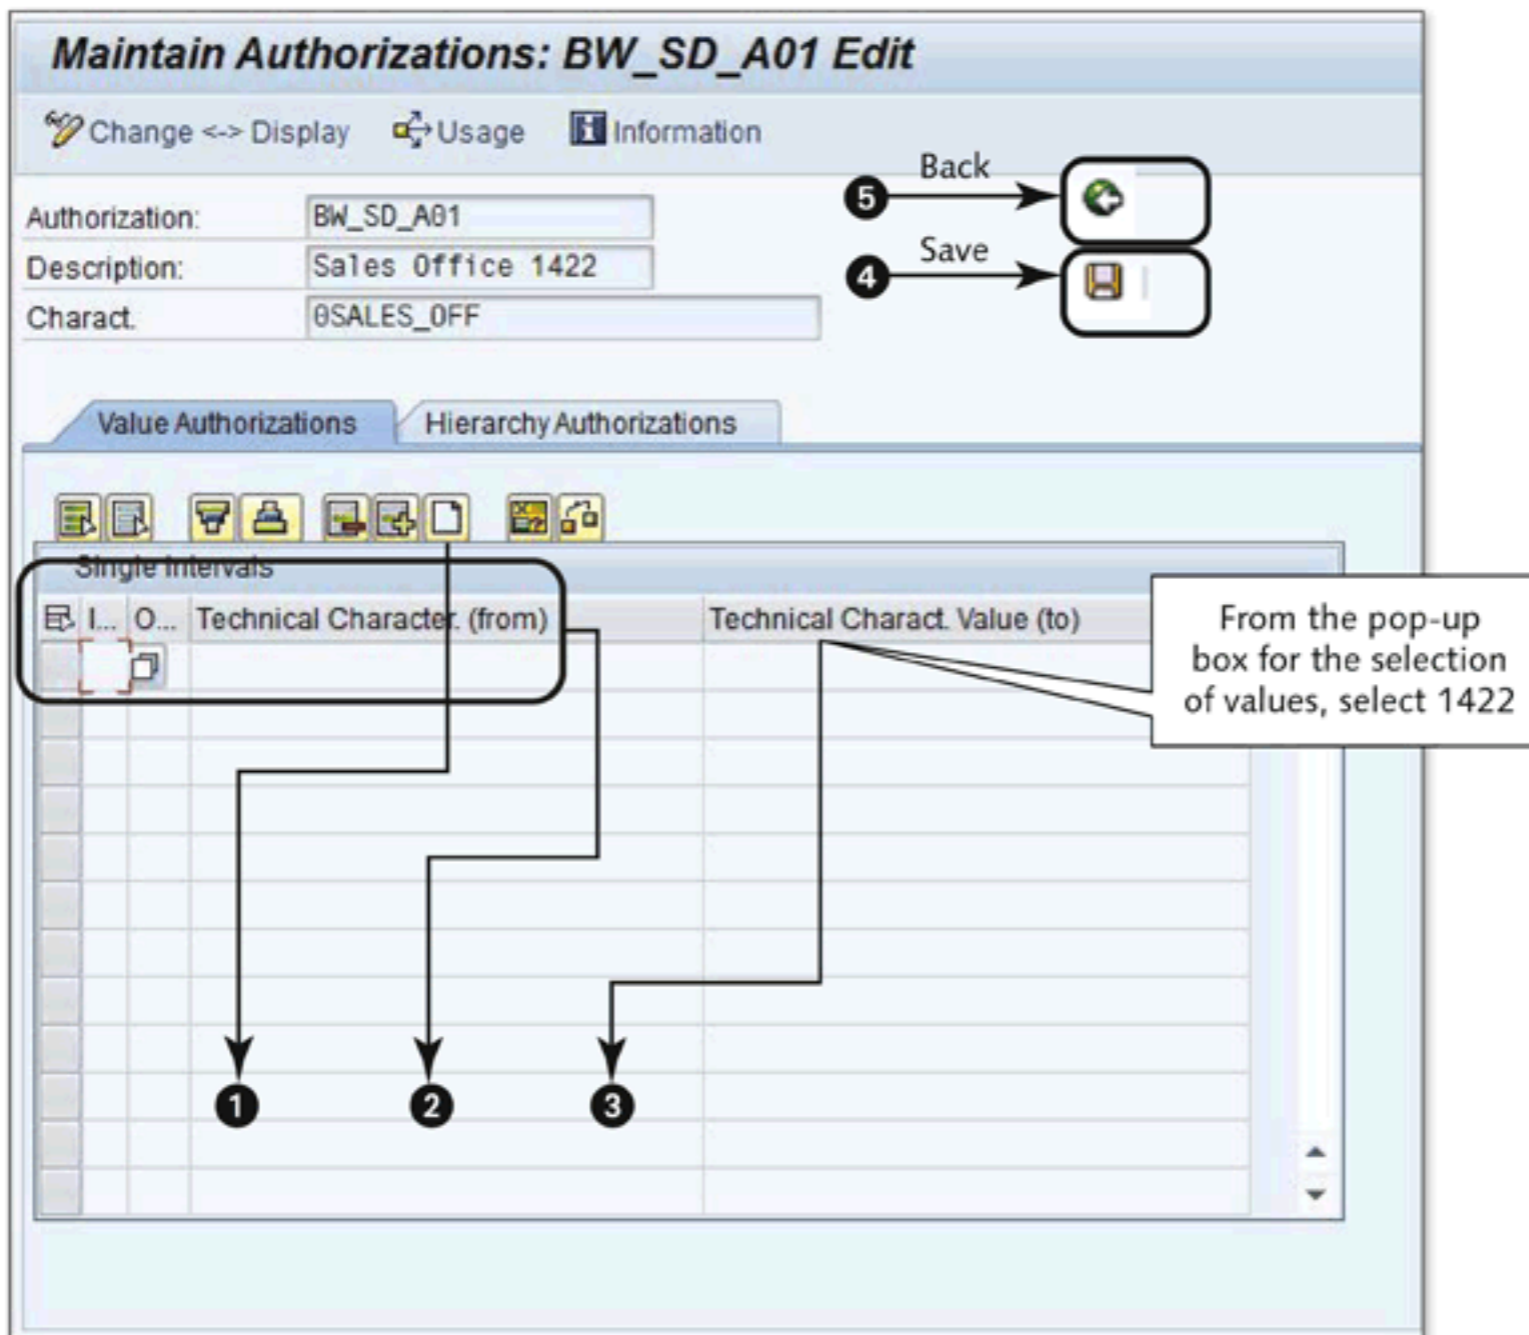

Figure 14.44 Maintain Authorization Values
Double-click on the 0SALES_OFF row. The system takes you to a screen where you can enter the characteristics value or hierarchy value (Figure 14.44).
Now choose the VALUE AUTHORIZATIONS tab, and click on the CREATE ROW icon (1 of Figure 14.44), which opens a row editable in the table (2). From the drop-down list (3), choose a value to which to restrict the information in sales office reports (in our example, we use 1422). Click on the SAVE and BACK icons, respectively. Authorization object BW_SD_A01 is created, which allows analysis only for sales office 1422.